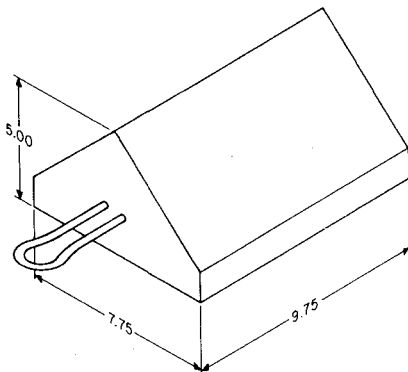

Fig. 1—C Wheel Chock
- 1.03 Both the B and C wheel chocks are triangular in shape and are approximately the same size. The B wheel chock is painted with yellow enamel and is constructed of laminated wood. It is rated manufacture discontinued (Mfr Disc.). The C wheel chock is constructed of molded rubber (Fig. 1).